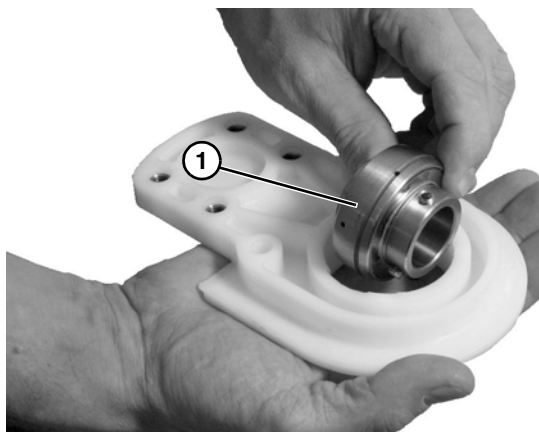

Figure 55
- Twist the bearing out (Figure 55, item 1).